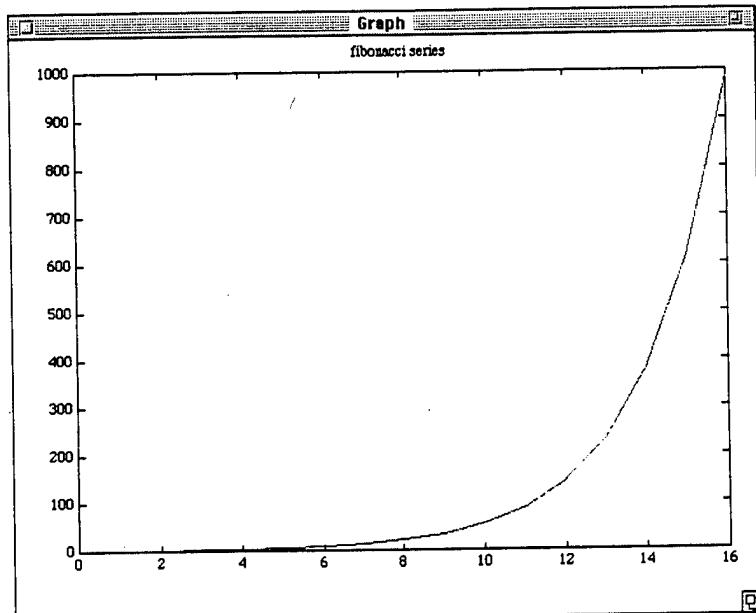

Figure 4.8: Output of script file “fibonacci”
5. Run the program by typing `>> fibonacci` from the command window. This results in a plot similar to that shown in Figure 4.8. Notice that you passed no parameters and the script file returned no parameters. However, typing `>> whos` now will show that two variables have been created in the workspace. *These variables are the same*